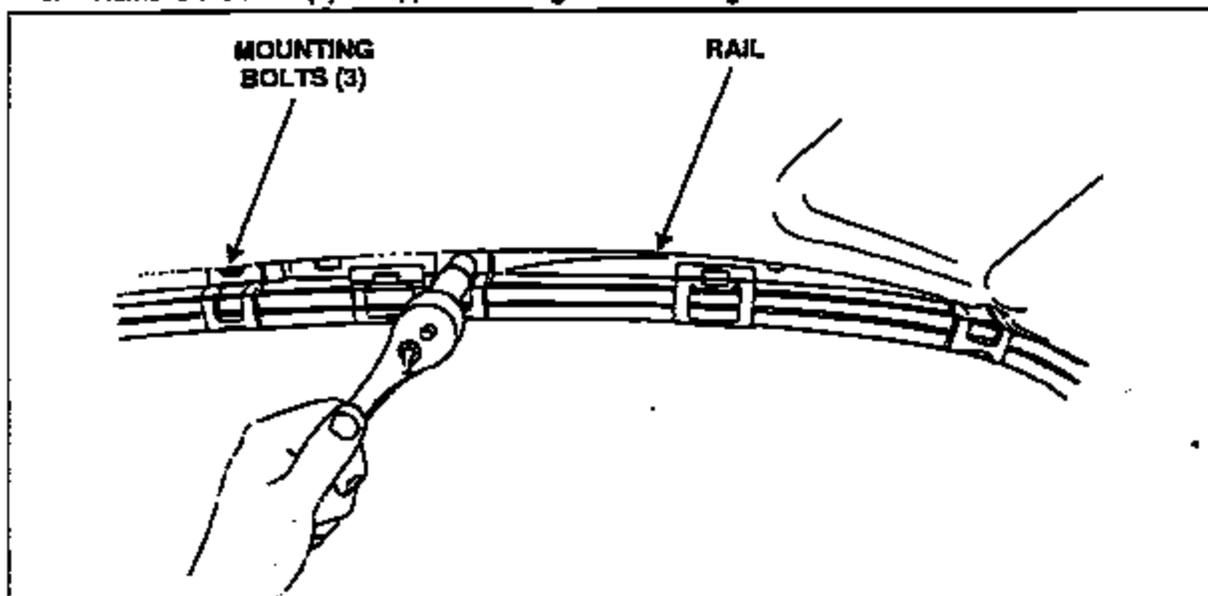

FIGURE 2
6. Remove the three (3) rail upper mounting bolts. See Figure 2.